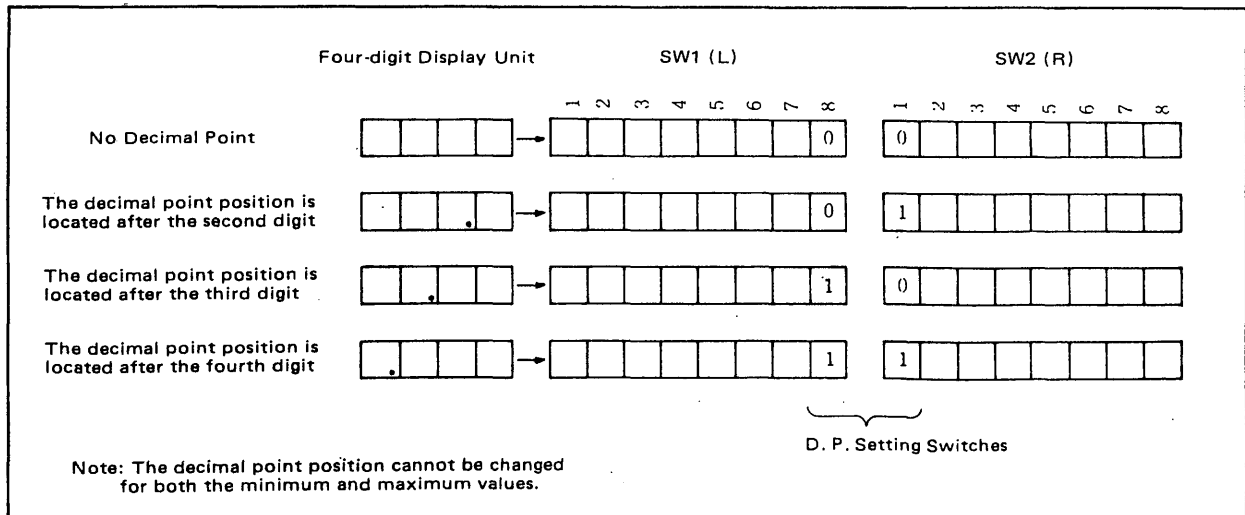

Figure 6-2-8. Decimal-Point Position Setting.
- (6) Decimal Point Position (D.P.) Setting.
Set No. 8 of SW1 (L) and No. 1 of SW2 (R) as follows depending on the decimal point position required. (See Figure 6-2-8).